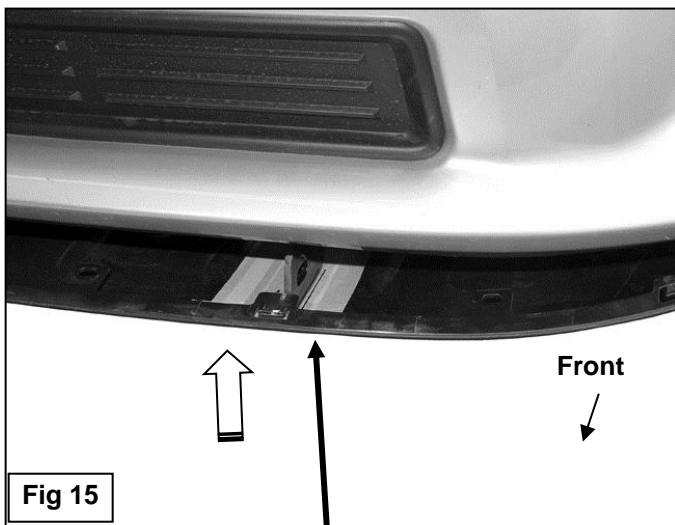

Fig 15
- Stand back from the vehicle and check to see that the Bull Bar is centered and level on the vehicle and adjust as necessary. Tighten only the hardware securing the Upper and Frame Mounting Brackets to the vehicle first. Next tighten only the (4) 8mm Hex Bolts securing the Tube Brackets to the Bull Bar as described in **Step 4**. Do not tighten the 12mm hardware attaching the Tube Brackets to the Frame Mounting Brackets. Remove the Bull Bar with Tube Brackets attached.
- Hold the splash guard up to the bumper cover and align it with the mounting points, **(Figure 15)**. Mark the location of the Mounting Brackets onto the back of the splash guard, **(Figures 15—17)**. Cut an approximately 1" wide by 4" long slot in the splash guard, **(Figure 17)**. **NOTE:** The size of the slot is an estimate only and may vary due to different factory designs for the splash guards and front bumper covers. Also, additional cutting may be required to clear the Support Bracket on vehicles equipped with tow hooks. **IMPORTANT:** To avoid weakening the splash guard, do not cut the slot any larger than necessary. Do not cut through the front or back edges of the cover, **(Figure 17)**. Make several small cuts first and check the fit often for a clean installation.